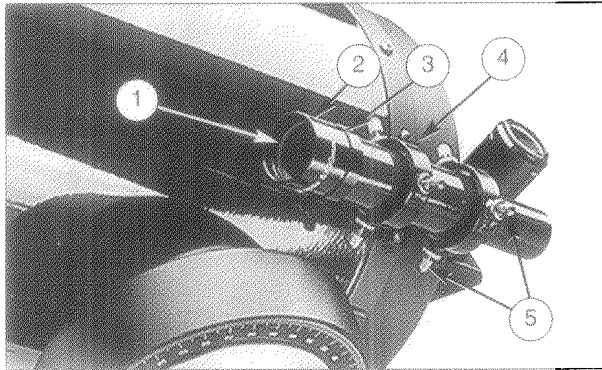

Fig. 15: The Viewfinder. (1) Objective Lens; (2) Lens Cell; (3) Focus Lock Ring; (4) Viewfinder Mounting Bracket; (5) Viewfinder Collimation (alignment) Screws.
- Remove the viewfinder from its mounting bracket (4, Fig. 15) by slightly unthreading the six alignment screws (5, Fig. 15) until the viewfinder can slip out easily.
- Loosen the viewfinder focus lock ring (3, Fig. 15) at the objective-lens-end of the viewfinder, enabling rotation of the objective lens cell (2, Fig. 15) clockwise or counterclockwise for precise focusing while looking at a distant object through the viewfinder.
- After a precise focus has been achieved, tighten the viewfinder focus lock ring (3, Fig. 15) against the objective lens cell to lock the focus in place.
- The viewfinder bracket includes six alignment screws (5, Fig. 15). Turn the *three rear-most alignment screws* so that the viewfinder tube is roughly centered within the viewfinder bracket, as viewed from the eyepiece-end of the telescope.